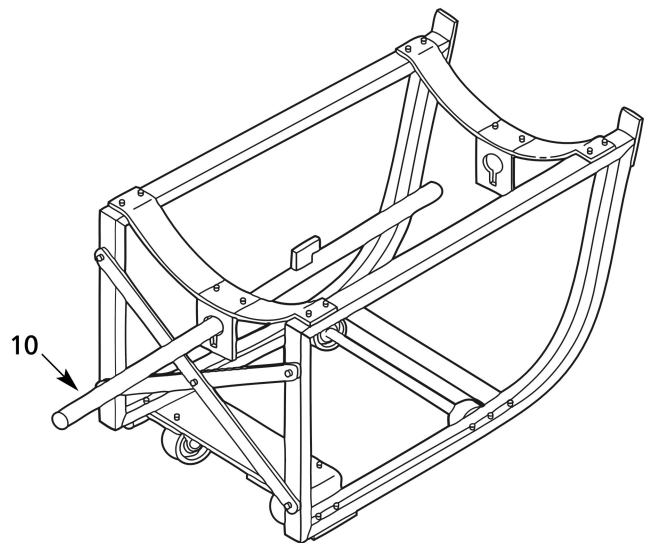

Figure 6 – Handle Storage for 1GC91G and 31226
2. Turn the cradle over so that the wheels are on the floor. Position the unit so that the frame is as square as possible and tighten all fastening hardware. The drum hook handle (Ref. No. 10) is stored in handle brackets under Drum slings (See Figure 6, page 4).
3. Turn the cradle over so that the wheels are on the floor. Position the unit so that the frame is as square as possible and tighten all fastening hardware. The drum hook handle (Ref. No. 10) is stored in handle brackets under cross bars (See Figure 6, page 4).